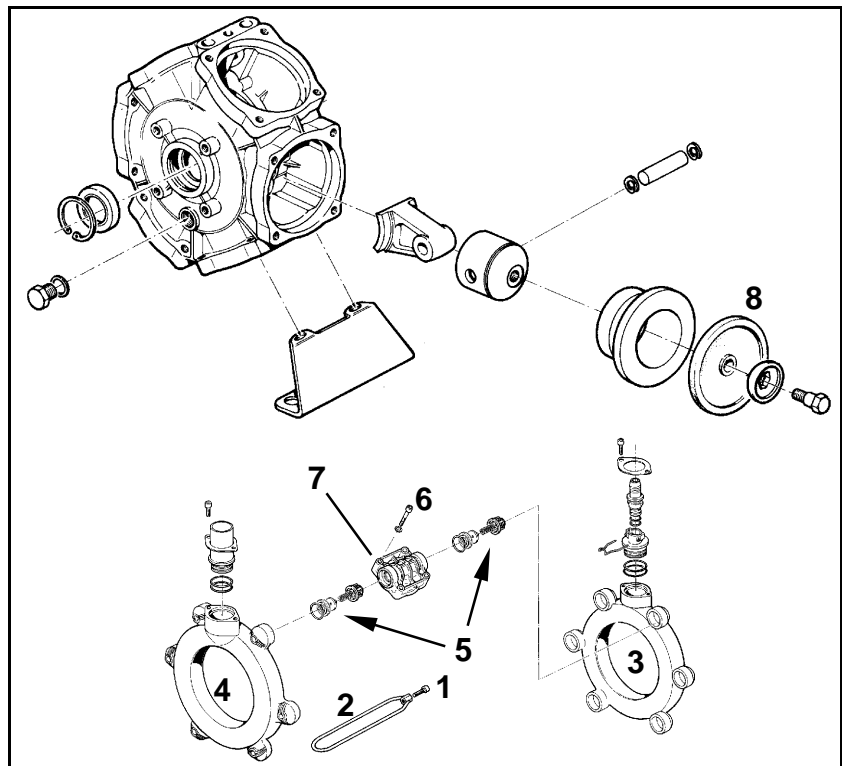

Fig. 221
- Check the piston diaphragms (Fig. 221/1) at least once a year by dismantling.
- Pay attention to the fitting position of the suction- and pressure-side valves, before you remove the valve groups (Fig. 221/5).
- As a matter of principle always exchange all 6 piston diaphragms (Fig. 221/6), even if just one piston diaphragm is swollen, broken or porous.
2. Slacken bolt (Fig. 221/1) and remove tensioning clamp (Fig. 221/2).
3. Take off suction- and pressure channel (Fig. 221/3 and Fig. 221/4).
4. Take off valve groups (Fig. 221/5).
5. Tighten bolts (Fig. 221/6).
6. Take off the cylinder head (Fig. 221/7).
7. Check the piston diaphragms (Fig. 221/8).
8. Exchange faulty piston diaphragms (Fig. 221/8).